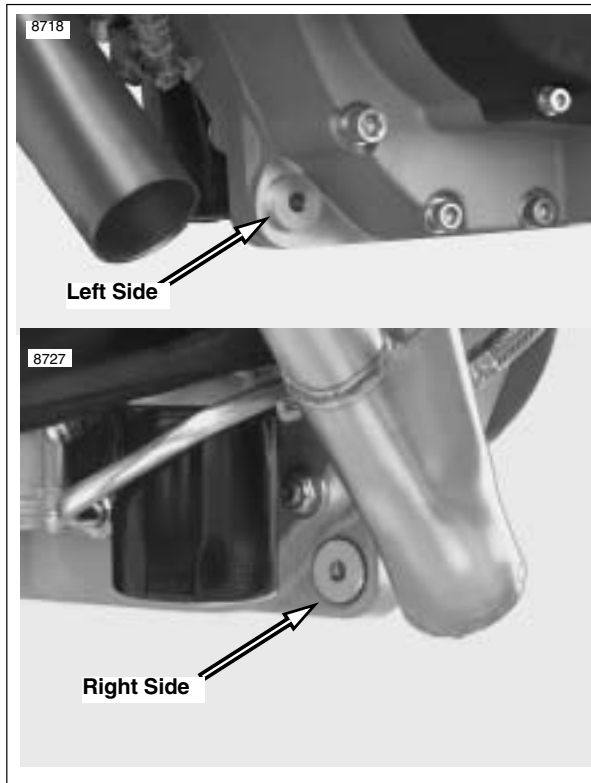

Figure 3-28. Front Exhaust Mount Bushings (2 piece)
- See Figure 3-28. Aluminum bushings from front exhaust mount.